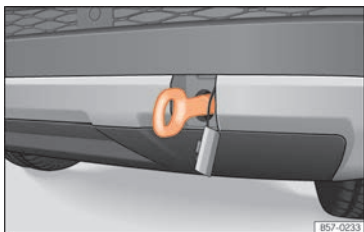

Fig. 50 On the right side of the rear bumper: towline anchorage in position.
- Screw the towline anchorage into the housing by turning it as far as it will go **anticlockwise** »» Fig. 50 »» ❶. Use a suitable object that can completely and securely tighten the towing eye in its housing.
❶ CAUTION